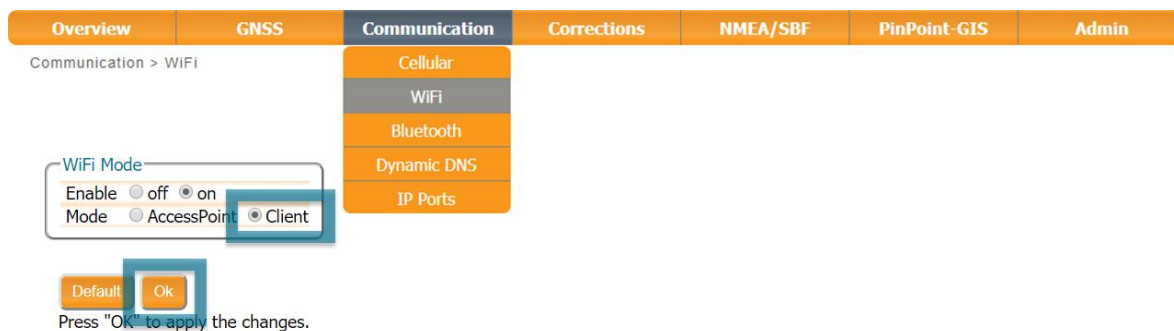

Figure 4-12: Click on 'Enable WiFi Client' then 'Ok'
- On the 'Communication/WiFi' tab, select 'Client' in the Mode parameter as shown in Figure 4-12.